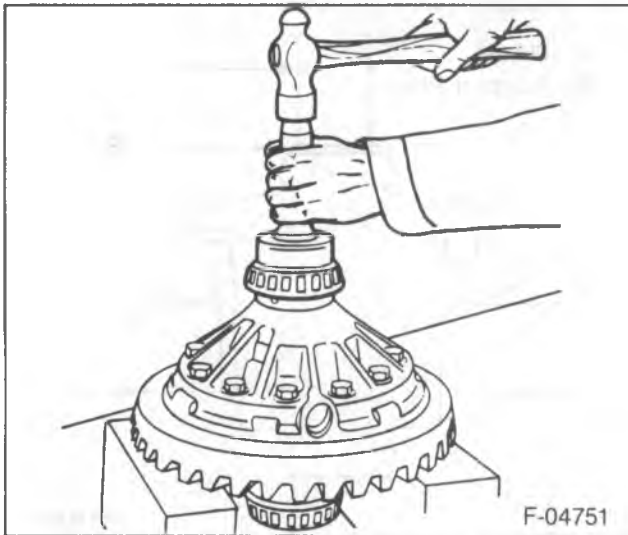

Figure 17—Installing Differential Bearings
8. Differential side bearings (18) using J 24429 and J 8092 (figure 17).